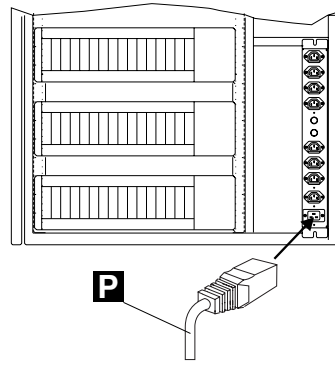

Figure 1-13. Power Cord for Power Strip
20. If it is not already plugged, connect the main power cord **P** coming from the ac outlet distribution box to the customer receptacle (see Figure 1-13 on page 1-17).